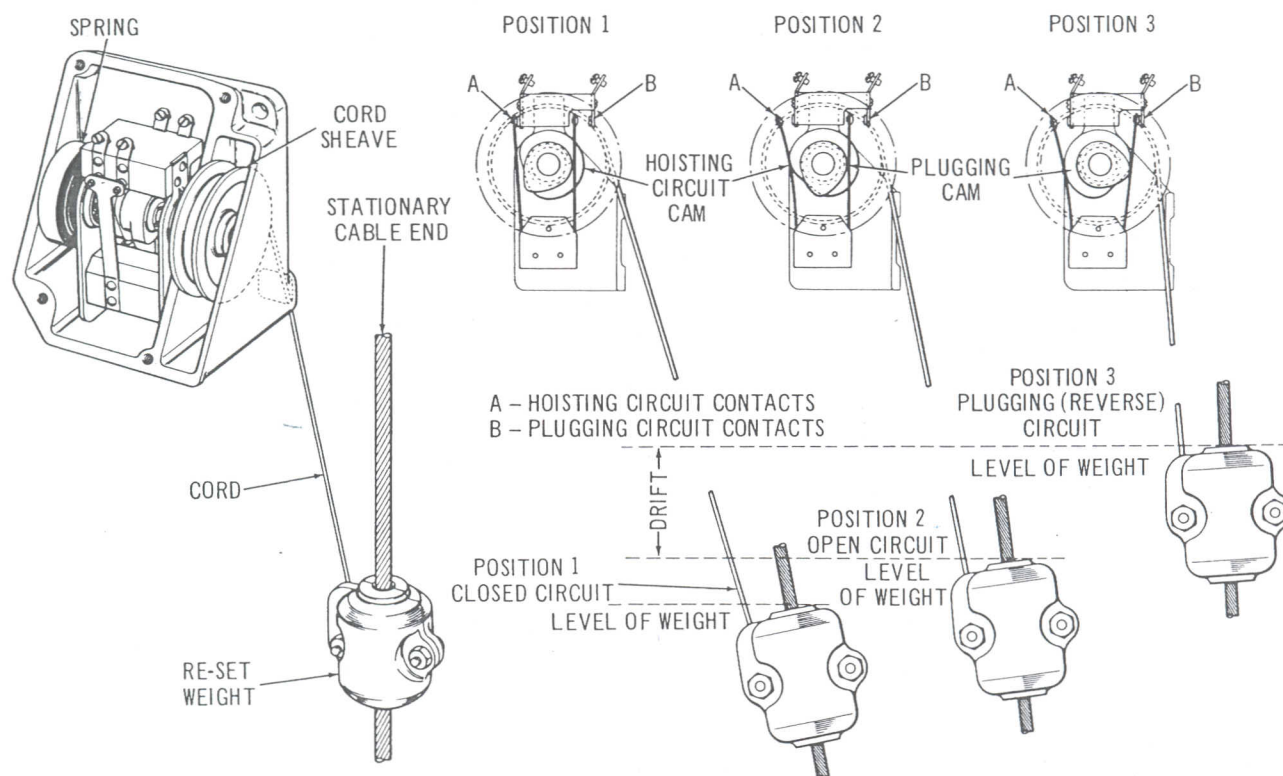

Figure 3-4. Weight Type Upper Limit Switch
WEIGHT TYPE UPPER LIMIT SWITCH (Figure 3-4). When the bottom block is in a normal operating position (below the preset upper limit), the re-set weight winds up the spring, positions the limit switch sheave against a stop. The cams are clear of the contact fingers (position 1) so that the hoist circuit contacts (A) are closed and plugging contacts (B) are open. When the bottom block approaches